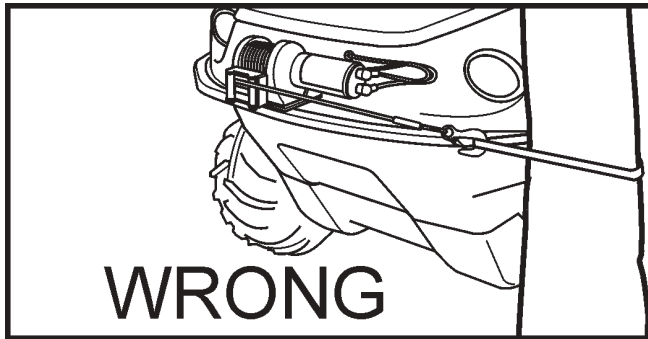
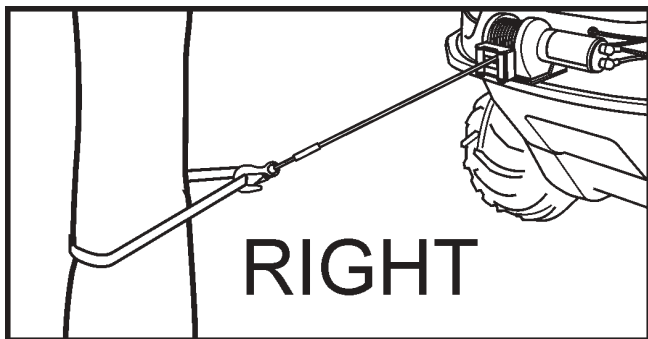

Figure 11-25. Incorrect positioning for continuous pulls.
Figure 11-26. Correct positioning for continuous pulls.
11. Avoid continuous pulls from extreme angles as this will cause the wire rope to pile up at one end of the drum (Figure 11-25 & Figure 11-26). This can jam the wire rope in the winch causing damage to the wire rope or the winch itself.